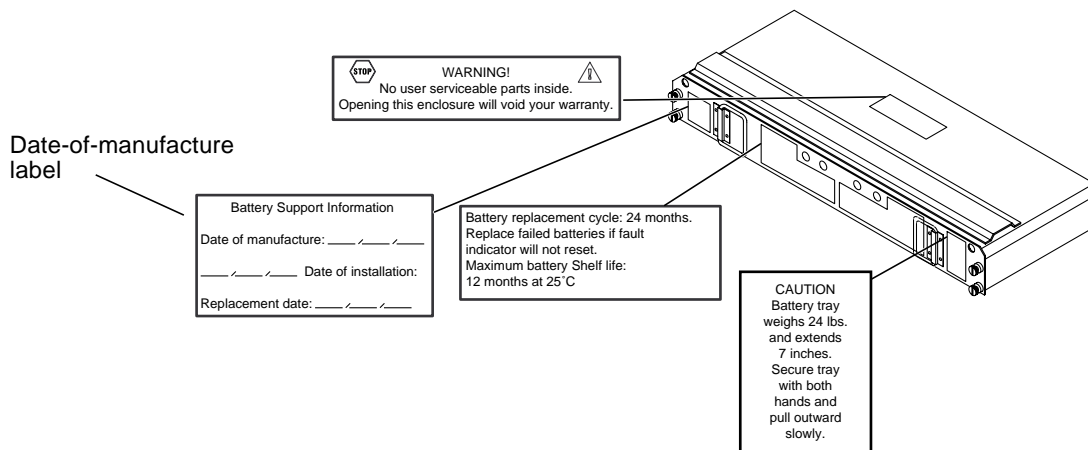

FIGURE 1-13 Battery Unit
4. Verify that the controller module battery unit has not exceeded its shelf life by checking the date-of-manufacture label (FIGURE 1-13).